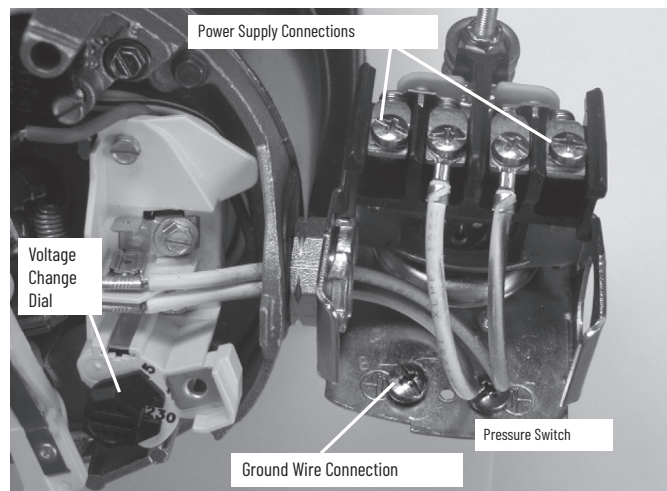

Figure 10: Voltage set to 230 volts, Dial Type
4. Attach the incoming power leads to the two outer screws on the pressure switch as shown in Figure 10.
5. Attach the ground wire to the grounding connections as shown in Figure 10.